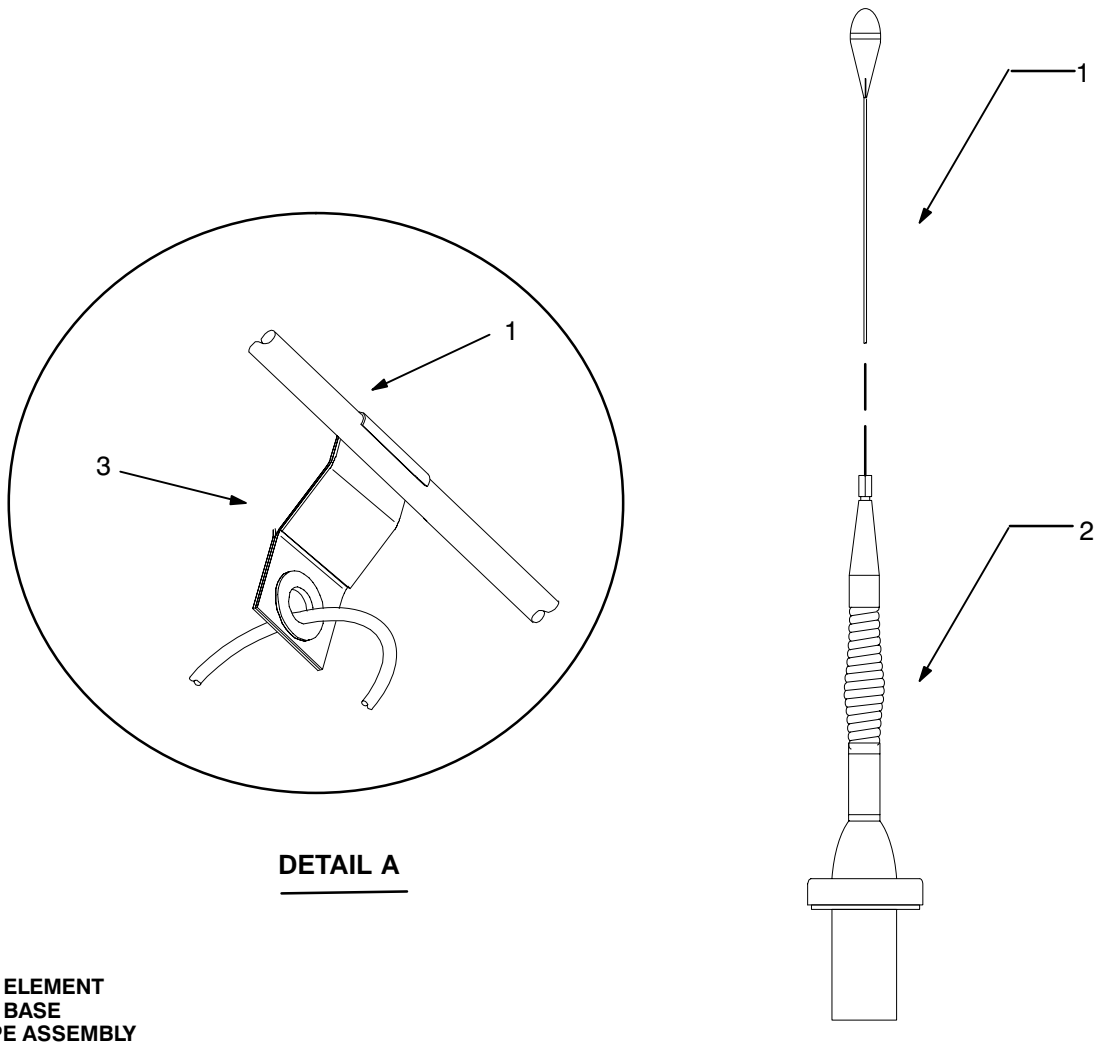

Figure 5-3. Top Antenna Assembly Installation
a. Antenna elements (1).	Install and secure to antenna base (2).
b. Wire rope assembly (3)	Attach clip to antenna element (1). Tie rope to vehicle to position antenna in desired location. See Figure 5-3, Detail A.